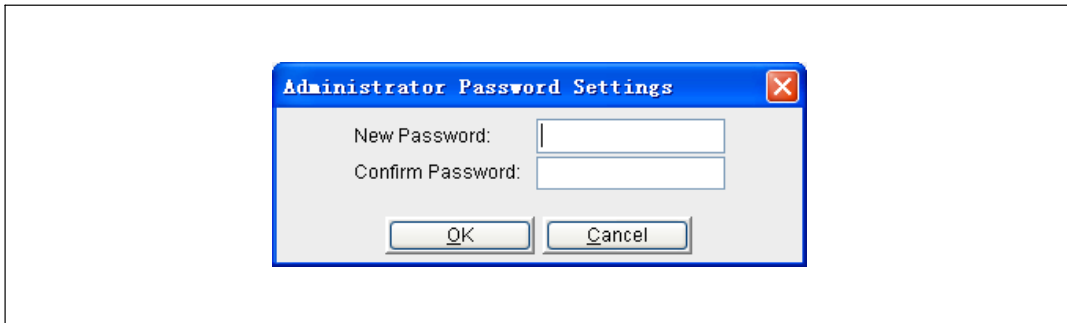

Figure 42. Administrator Password Settings Window
- 3 Select **Modify Administrator Password** from the **System** menu. The Administrator Password Settings window opens (see Figure 42).